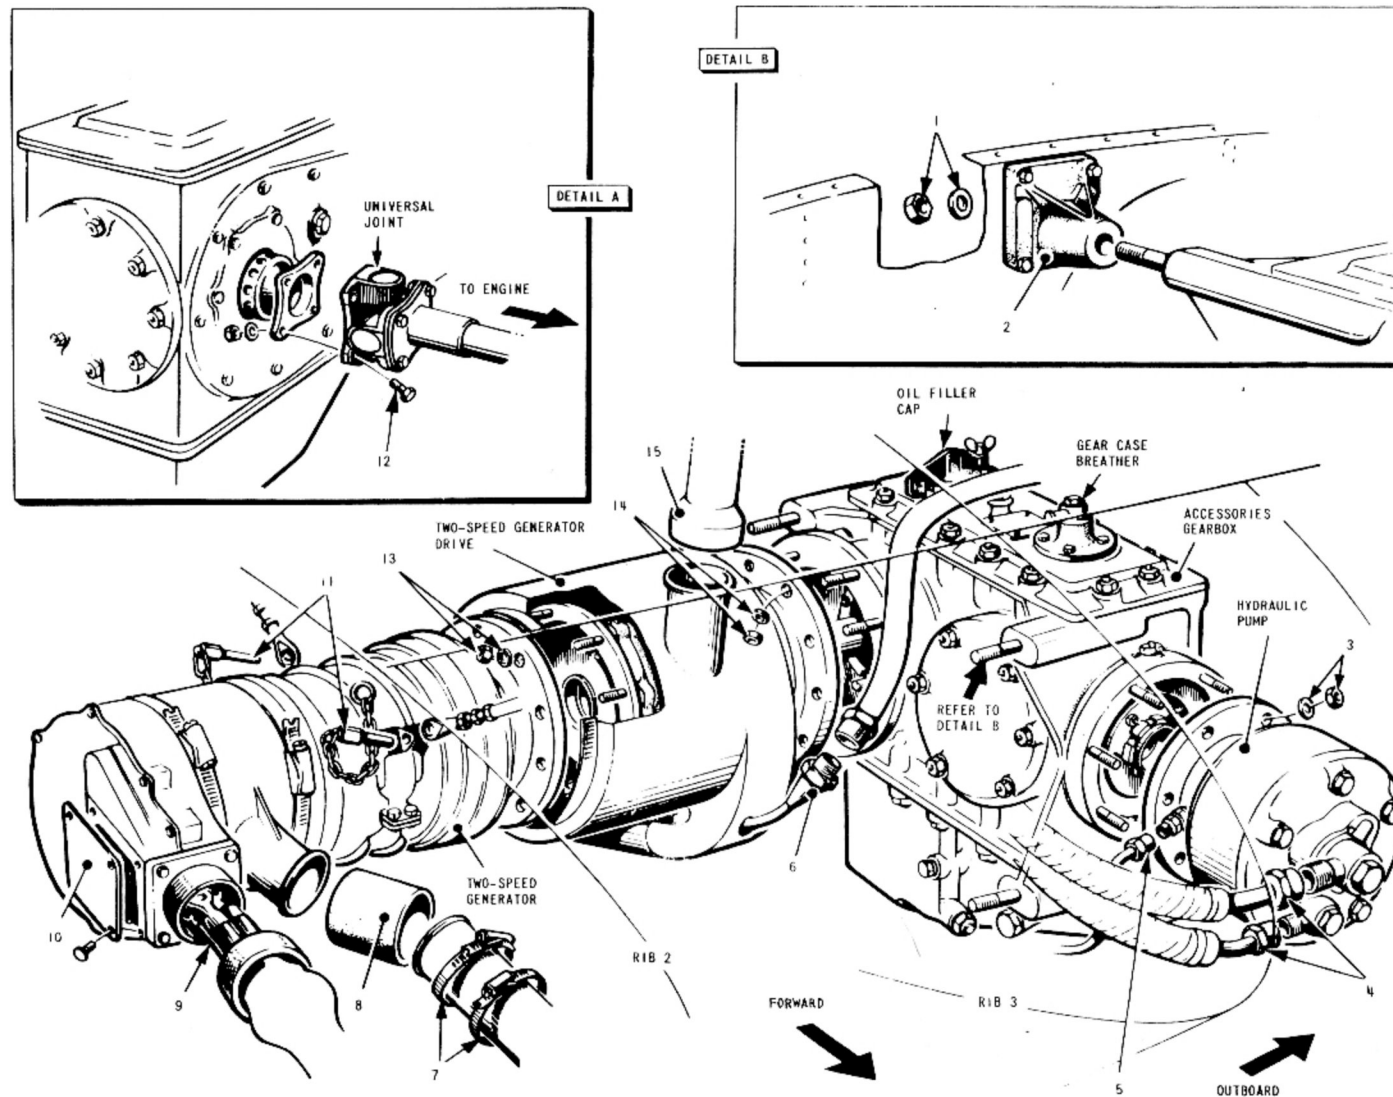

FIG. 8. ACCESSORIES GEARBOX - REMOVAL AND ASSEMBLY
34. Refer to the key to fig.8
KEY TO FIG.8 (ACCESSORIES GEARBOX - REMOVAL AND ASSEMBLY)
KEY TO FIG.8 (ACCESSORIES GEARBOX - REMOVAL AND ASSEMBLY) - continued